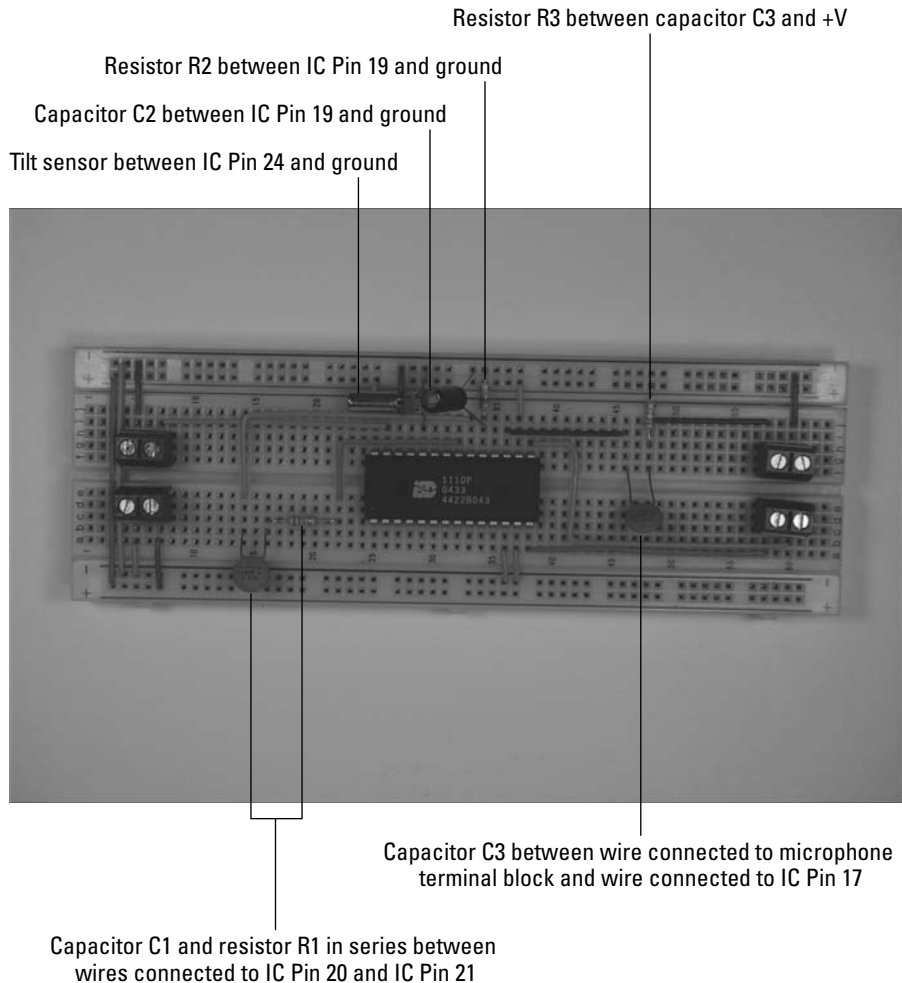

Figure 14-8:
- 5. Insert discrete components and the tilt sensor in the breadboard, as shown in Figure 14-8.**